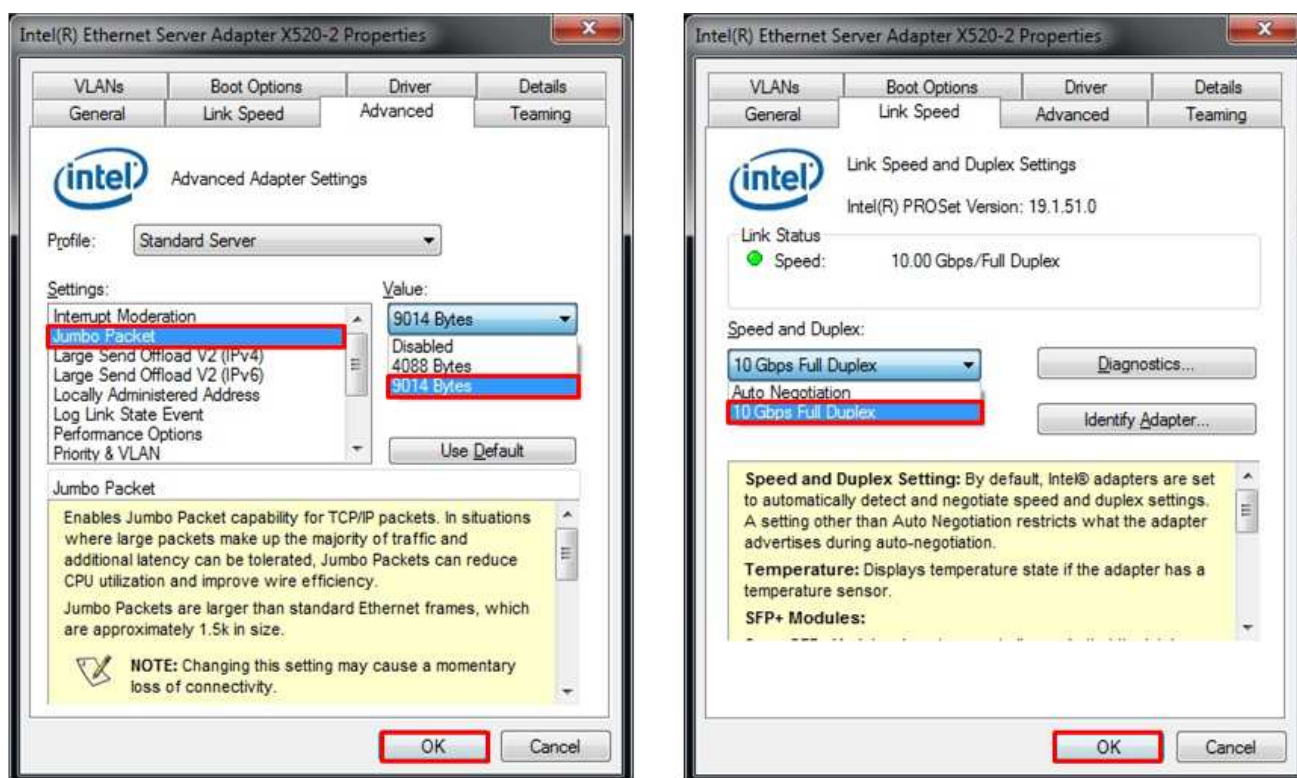

Figure 4 Link speed and Jumbo frame setup
- On Advanced Tab, select “Jumbo Packet” and then set Value to “9014 Bytes” for Jumbo Frame support or set value to “Disabled” for non-Jumbo Frame support, as shown in left window of Figure 4.
- On Link Speed, select “10 Gbps Full Duplex” for running 10-Gigabit transfer test, as shown in right window of Figure 4.